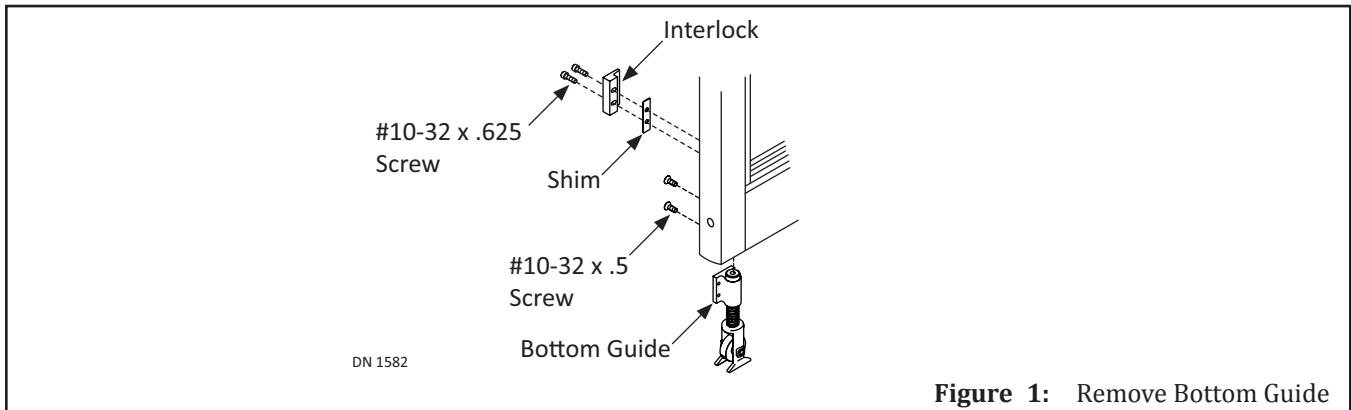

Figure 1: Remove Bottom Guide
2. Go to the bottom Stile of Door. Remove (2) #10-32 x .5 screws (used to secure the Bottom Guide), and (2) 10-32 x .625 screws (used to secure the Interlock). Please see Figure 1.